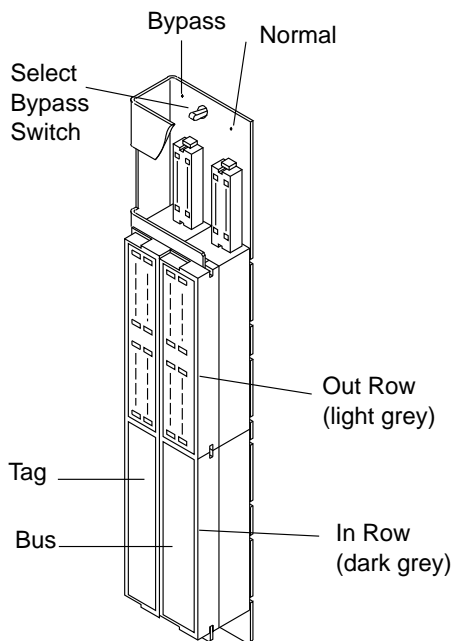

Figure 8-1. Channel Interface Position
- b. Put the **select bypass switch to the normal (right) position** for each CA interface installed. (Refer to Figure 8-1.)